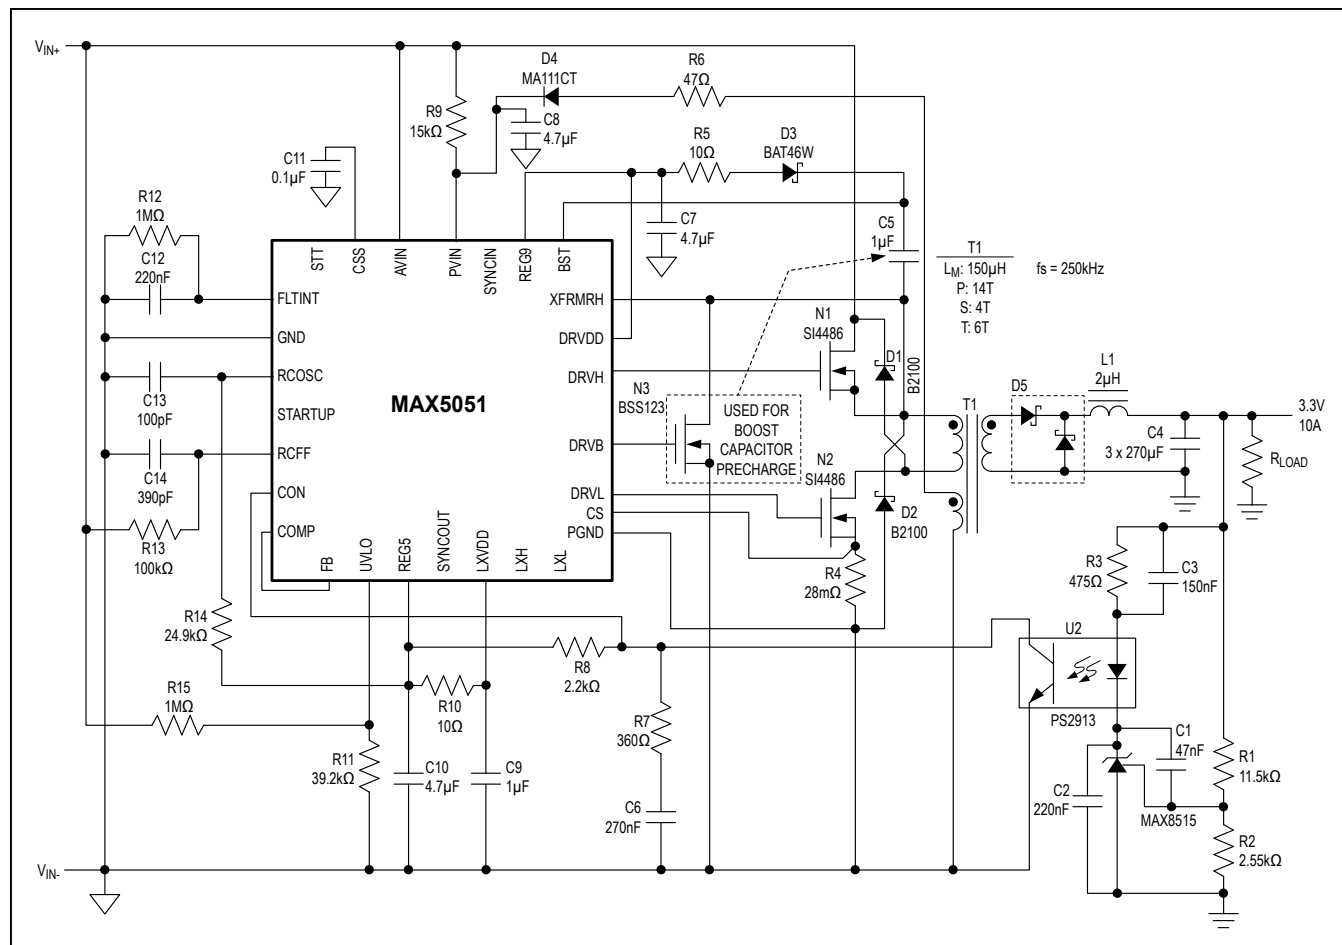

Figure 2. Typical Application Circuit
The two-switch power topology has the added benefit of recovering practically all magnetizing as well as the leakage energy stored in the parasitics of the isolation transformer. The lower clamped voltages on the primary power FETs allow for the use of low $R_{DS(ON)}$ devices. Figure 2 shows the schematic diagram of a 48V input 3.3V/10A output power supply built around the MAX5051.
If the charge stored on the boost capacitor is not adequately replenished then the gate-driver lockout for the high-side MOSFET is triggered, stopping the high side from switching. The low side continues switching, eventually recharging the capacitor, at which point the high side starts switching again. To prevent this behavior, use the boost capacitor's cycle-by-cycle charging circuit to prevent unwanted shutdowns of the high side (Figure 2). Connect the gate of a small high-voltage FET (with the same voltage rating or higher as the main FETs) to the DRVVB output of the MAX5051. Connect the drain of this FET to XFRMRH, and connect the source to the primary ground. DRVVB will briefly (300ns) turn this FET ON every cycle after the main PWM clock terminates. This allows the boost capacitor to be replenished under all conditions, even when switching stops completely. A suitable FET for this is BSS123 or equivalent (100V, 170mA rated). The boost-capacitor charge diode is a high-voltage, small-sig-
The error amplifier in the MAX5051 has an uncommitted inverting input (FB) and output (COMP). Use this amplifier when secondary isolation is not required. COMP can then be directly connected to CON (the input of the PWM comparator). The noninverting input of the error amplifier is connected to the soft-start generator and is also available externally at CSS. A capacitor connected to CSS is slewed linearly during initial startup with the 70μA internal current source (see Figure 2). This provides a linearly increasing reference to the noninverting input of the error amplifier forcing the output voltage also to slew proportionally. This method of soft-start is superior to other methods because the loop is always in control. Thus, the output-voltage slew
After coming out of standby and before initiating the soft-start, the MAX5051 turns on the low-side FET to charge up the boost capacitor. A voltage detector has been incorporated in the high-side driver that prevents the high-side switch from turning on with insufficient voltage. It is also used to indicate when the boost capacitor has been charged. Once the capacitor is charged, soft-start commences. If the duty cycle is low, the magnetizing energy in the transformer may be insufficient to keep the bootstrap capacitor charged. DRVb (see Figure 2 dotted lines) has been provided to drive a small external FET connected between XFRMRH and PGND, and is pulsed every cycle to keep the capacitor charged.